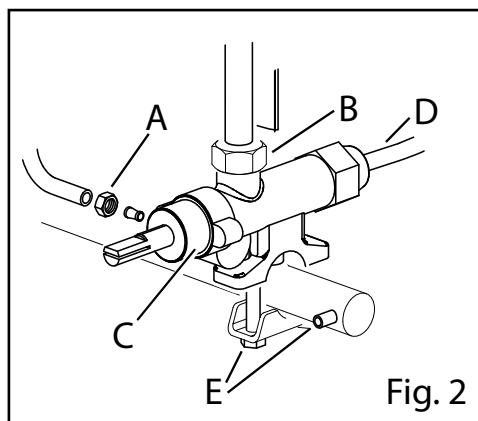

Fig. 2
- Unscrew the locking screw (Fig. 2).
- Where required set the distance (X) mm of the bushing corresponding to the selected gas (see Gas reference Table).
- Unscrew the gas inlet (e.g. Fig. 2/E) and outlet (e.g. Fig. 2/A and B) connections.
- Unscrew the thermocouple (e.g. Fig. 2/D)
- Unscrew the thermocouple from the cut-off cock (e.g. Fig. 2/D)